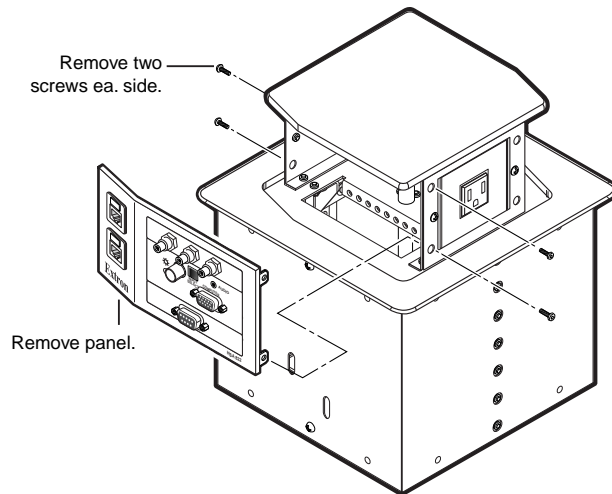

Figure 3-1 — Removing the AAP panel
2. Remove the top and bottom screws on the right and left sides of the AAP panel (figure 3-1). Retain the screws. Lift the panel away from the enclosure as far as the connected cables allow and then allow the panel to dangle, supported by its connected cables.
1. Remove the top and bottom screws on the right and left sides of the AAP panel (figure 3-1). Retain the screws. Lift the panel away from the enclosure as far as the connected cables allow and then allow the panel to dangle, supported by its connected cables.
3. On both AAP panels, remove the top and bottom screws on the right and left sides of the AAP panel (figure 3-1, page 3-2). Retain the screws. Lift the panels away from the enclosure as far as the connected cables allow and then allow the panels to dangle, supported by their connected cables.